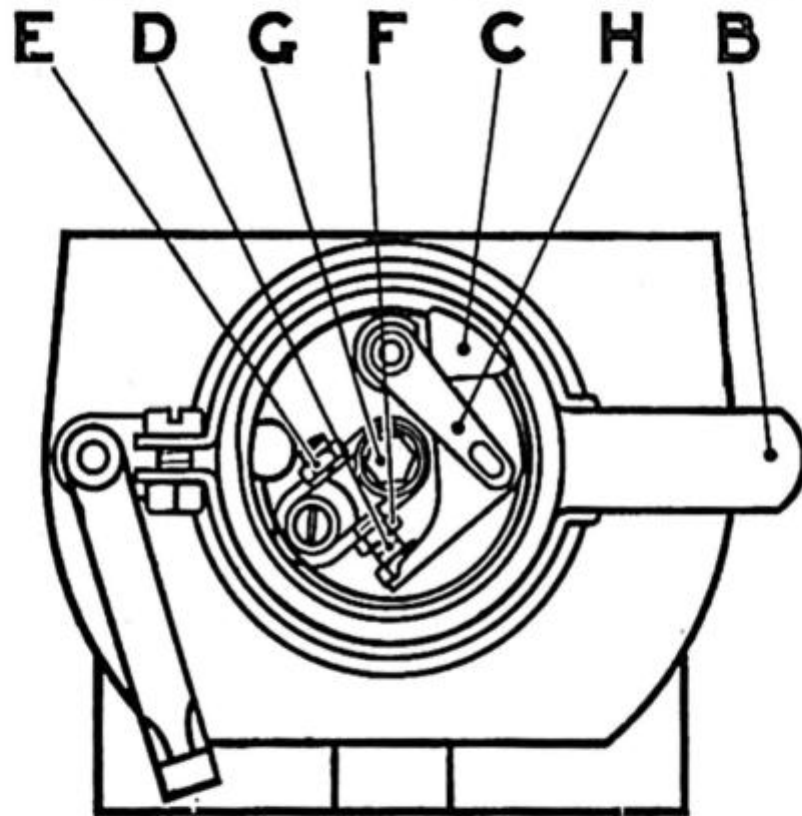

Fig. 8
If adjustment is necessary, turn the engine round slowly until the points are seen to be fully opened, then using the magneto spanner, slacken the locking nut (E, Fig. 8), and rotate the fixed contact screw by the
by removing from the plug terminals the high-tension cable and observing whether a spark takes place on turning the engine round with the terminal lead held about $\frac{1}{8}$ " from some metal part of the engine. If no spark occurs, examine the contact breaker ; slowly turn the engine over, and observe the action of the contact breaker rocker arm ; it is possible that the arm is not answering to its control spring, and is remaining permanently open as it is rotated. If this appears to be so, remove the contact breaker and applying pressure with the finger on the fibre heel (C, Fig. 8), observe whether the points readily open and close. If they are at all sluggish, push aside the locating spring (H, Fig. 8), and prising the rocker arm off its bearing, examine the steel pin on which it works, cleaning this, if required, with fine emery cloth, wiping away all grit, and moistening the pin with oil before replacing the lever. We need hardly warn the reader that no trace of oil should be left anywhere near the contact points after this has been done.
4. With the Magdynos provided with variable ignition, the ignition control or the timing lever (B, Fig. 8) should be moved to the fully retarded position, that is, to the limit of its travel in the forward direction.
5. Remove the contact breaker cover and turn the magneto spindle in its normal direction of rotation until the fibre heel (C) begins to rise on the inclined plane of the cam ring just sufficiently to separate the points (D). This position is the firing point, and the magneto drive should be permanently fixed in this position.